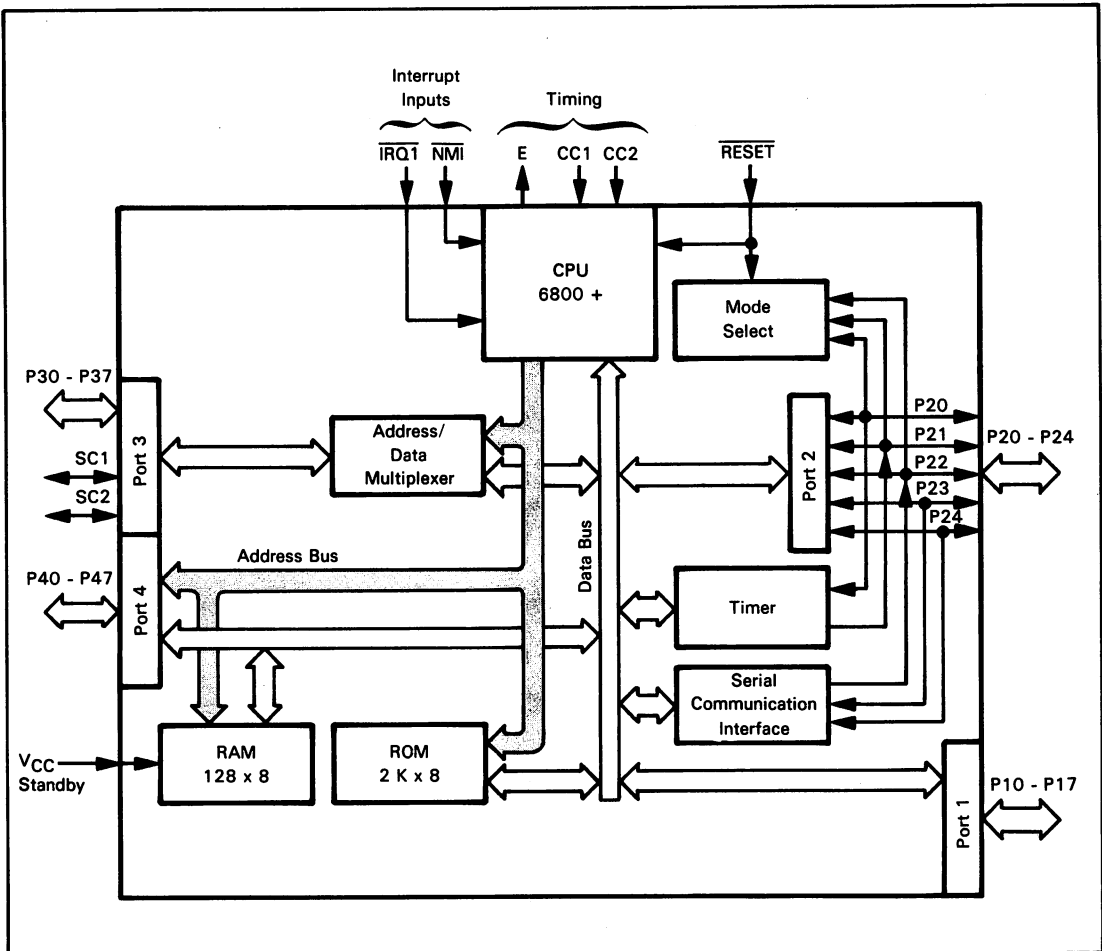

Figure 9-41. MC6801 Functional Block Diagram
Before we discuss the characteristics of each operating mode further, we must take a closer look at the resources provided by the MC6801. Figure 9-41 illustrates the functional logic of the MC6801.
**I/O Port 2** is also unaffected by the MC6801 operating mode. You can see in Figure 9-41, however, that the lines to and from this port perform multiple functions. This port has only five lines, and all five may be used as simple parallel data inputs. Four of the five lines may also be used as simple data output lines, but P21 can only be used to output information from the programmable timer. Three of the lines are also used by serial communication interface logic whenever this function is enabled. During reset operations, the three low-order lines (P20, P21, P22) are used to select the MC6801 operating mode. We shall describe this mode select function in detail when we discuss the reset operation.